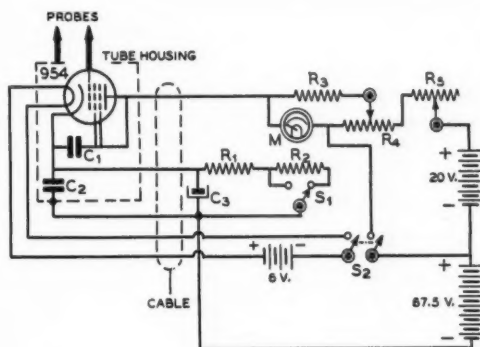

Figure 4.
Figure 4. Two types of mercury "verticals." (A) Only top section is variable. (B) Top and center sections are both variable making a "five and ten" or "ten and twenty" antenna. Central section also acts as a switch to connect top section.
The circuit shown in figure 4, which is taken from RCA Application Note no. 47, provides a v.t.v.m. usable on frequencies up to 50 Mc. The input capacitance is only $1.4 \mu\text{fd}$. The meter may also be used on audio, low-frequency a.c. and d.c., of course. The tube